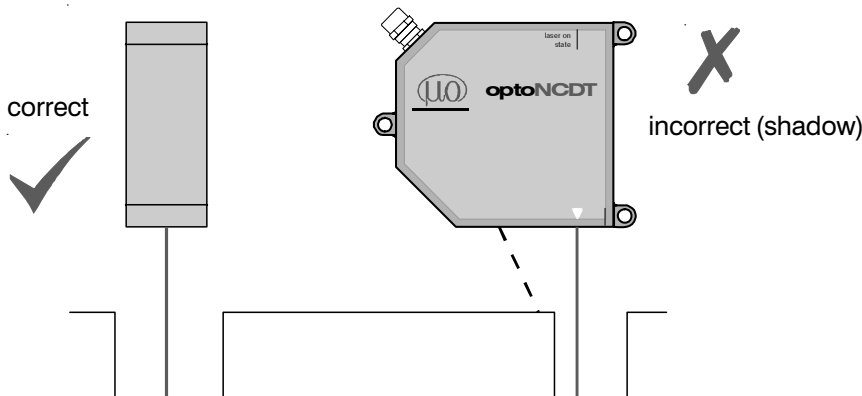

Fig. 9.4: Sensor arrangement for holes and ridges
- In case of bore holes, blind holes, and edges in the surface of moving targets the sensor must be arranged in such a way that the edges do not obscure the laser spot (fig. 9.4).